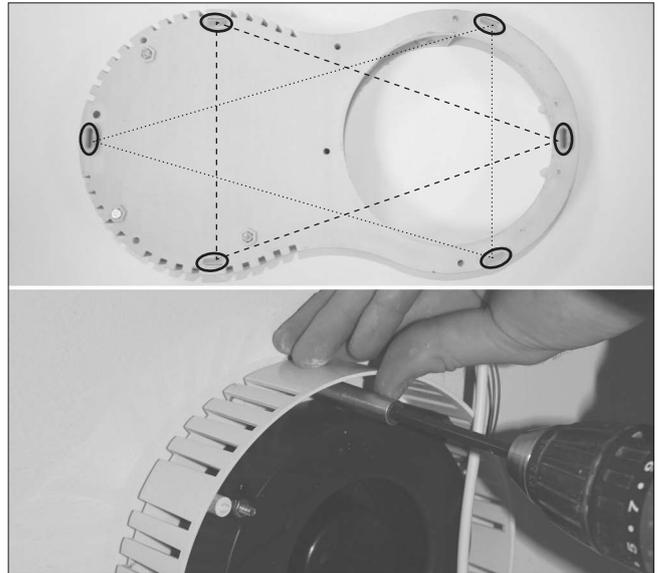

Fig.5B
- Fit the rear assembly to the wall using the 3 screws (Fig.5B).